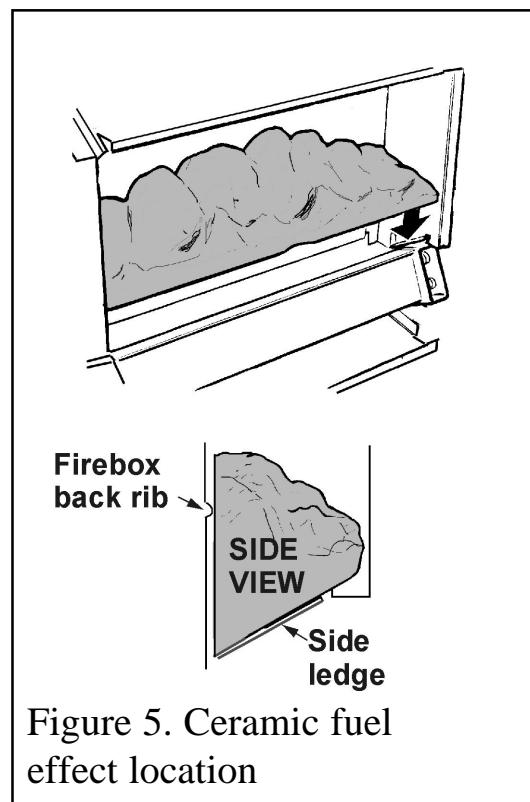

Figure 5. Ceramic fuel effect location
- When replacing the ceramic fuel effect, make sure that it rests on the ledges at the sides of the firebox and that its back face is touching the horizontal rib at the back of the firebox (See figure 5).